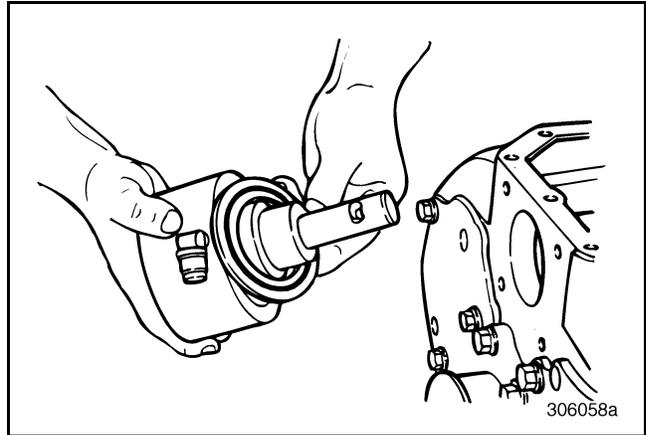

Figure 76 — Two-Position Shift Cylinder Gasket
23. For transmission models with the two-position range shift cylinder (non-neutralizing), also remove the gasket as shown in Figure 76.